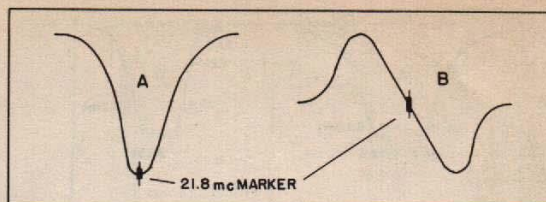

Fig. 10. Audio I-F Curves
1. **Sound I-F Alignment**—The sweep generator is connected through a 500 mmf. capacitor to the grid of the tube preceding the sound i-f coil to be aligned. Connect the oscilloscope through a 100,000-ohm resistor across the resistor, R104, in the limiter tube, V18 grid. Insert a 21.8 mc marker signal from an unmodulated signal generator into the grid of V3. Keep the marker signal attenuated so that it just shows a marker on the sweep curve. Adjust L21 and L5, respectively, as you advance progressively one stage at a time, for maximum gain and symmetry of the response curve about the 21.8 mc marker. The curve should be similar to that shown in Figure 10-A. With input at the first audio i-f, V22, the bandwidth should be approximately 300 kc at the 70% response point.
For discriminator alignment, the secondary core of the discriminator transformer, T19, is aligned by using a tone modulated 21.8 mc amplitude modulated signal and listening to the tone at the loudspeaker. This adjustment is made for a minimum tone signal output. Apply the signal generator input to the grid of V22. If the sweep is used for the secondary alignment, the cross-over should be symmetrical about a 21.8 mc marker and should be a straight line between the alternate peaks, as shown in Figure 10-B. For the discriminator transformer primary alignment, connect the oscilloscope to the junction of C74 and R86. With the same sweep input as in Step 1, adjust the primary adjustment screw for a maximum peak-to-peak amplitude of the response curve, as shown in Figure 10-B.